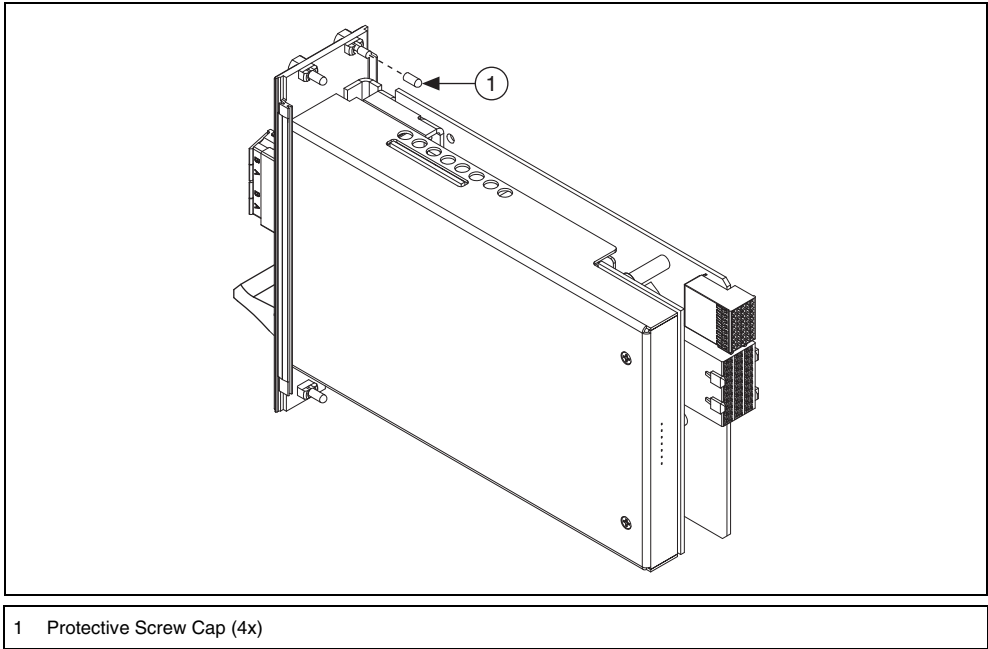

Figure 1. Removing Protective Screw Caps
4. Remove the protective plastic covers from the four front panel mounting screws on the module, as shown in Figure 1.